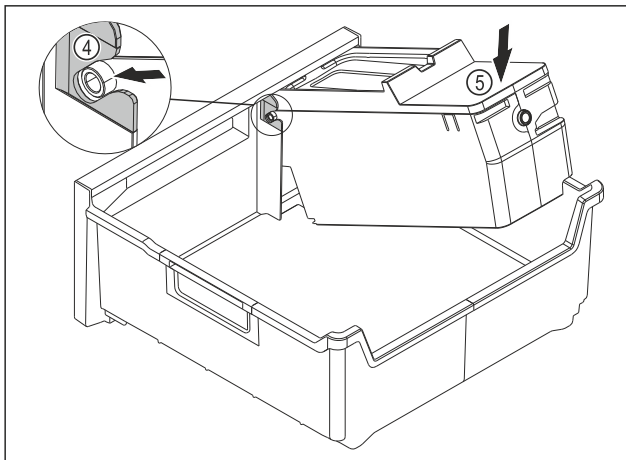

Fig. 128
- Installing the EasyTwist-Ice body: Insert the axes of the EasyTwist-Ice body into the guides Fig. 128 (4).
- Press down the EasyTwist-Ice body Fig. 128 (5) at the rear.